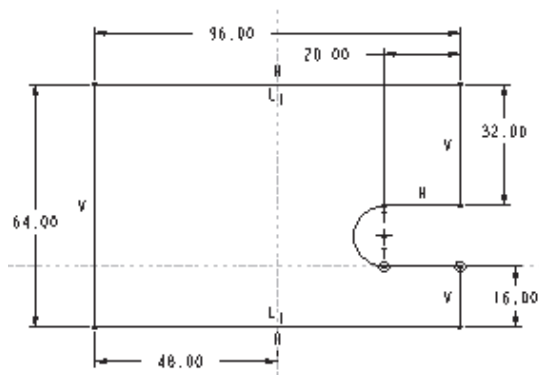
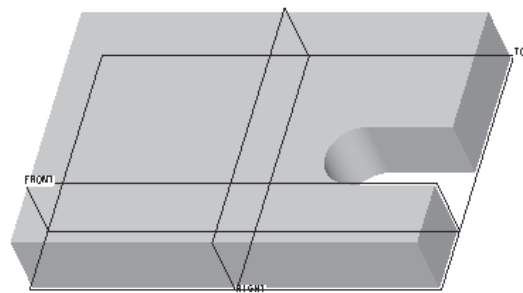

Figure 4-63 Sketch with dimensions and constraints for the base feature
Figure 4-64 Base feature of the model
- Select the sketch plane for the base feature, draw the sketch using the sketching tools, apply the dimensions and constraints, and then extrude the sketch to the given depth, see Figure 4-64.
The sketch for the base feature consists of a rectangular shape with a slot as shown in Figure 4-63. When this sketch is extruded, it will create the base feature with the slot as shown in Figure 4-64.
1. Draw the section sketch using various sketcher tools and add the required constraints and dimensions to it as shown in Figure 4-63.
Since the **Intent Manager** is on by default, the sketch is automatically dimensioned and some weak dimensions are assigned to it. Modify these dimensions as shown in Figure 4-63.
The base feature is completed and is shown in Figure 4-64. You can use the CTRL+middle mouse button to spin the object to view it from different directions.